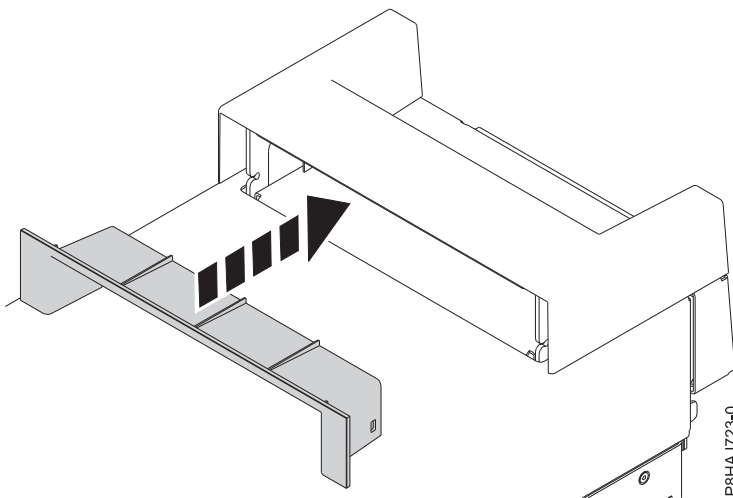

Figure 60. Inserting the piece within the handle cover on an 8286-41A stand-alone system
2. Insert the piece within the handle cover by pushing it firmly into the handle cover as shown in Figure 60.